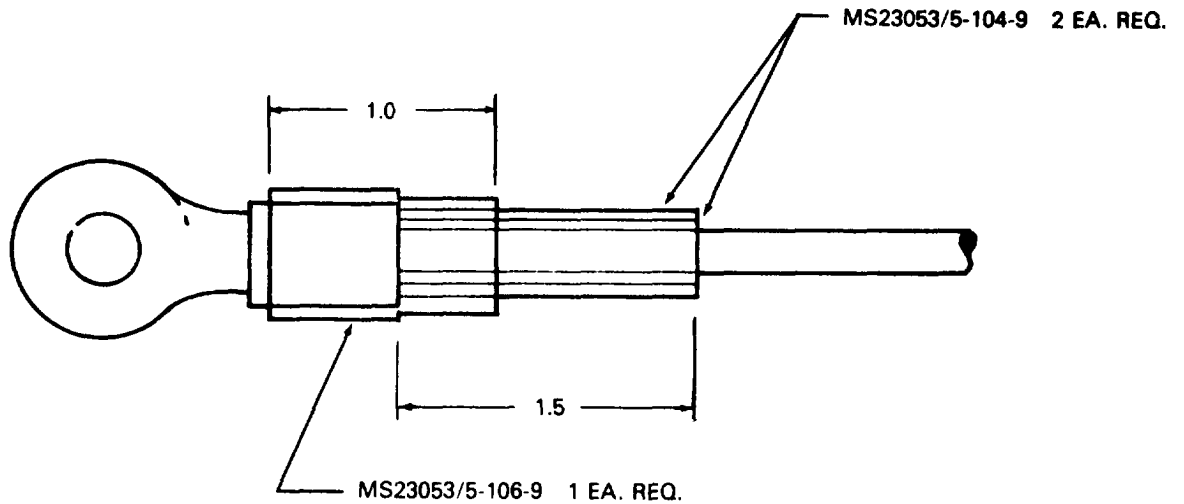

Figure 1.
d. Cut 4 lengths of MS23053/5-104-9, each 1.5 inches long. Slip 1 piece of sleeving over each new wire adjacent to lug (Fig. 1) Shrink sleeving in place (TM 55-1500-323-24).
e. Slip another length of MS23053/5-104-9 over wire and newly applied sleeve, adjacent to lug. Shrink sleeving in place (TM 55-1500-323-24). This will form 2 layers of shrink sleeve butting up next to lug (Fig. 1).
f. Cut 2 lengths of MS23053/5-106-9 sleeving, each 1 inch long. Slip 1 piece of sleeving over each new lug and newly applied sleeving. MS23053/5-106-9 sleeving should extend over lug insulation (Fig 1). Shrink sleeving in place (TM 55-1500-323-24) .
m. Inspect (TI).